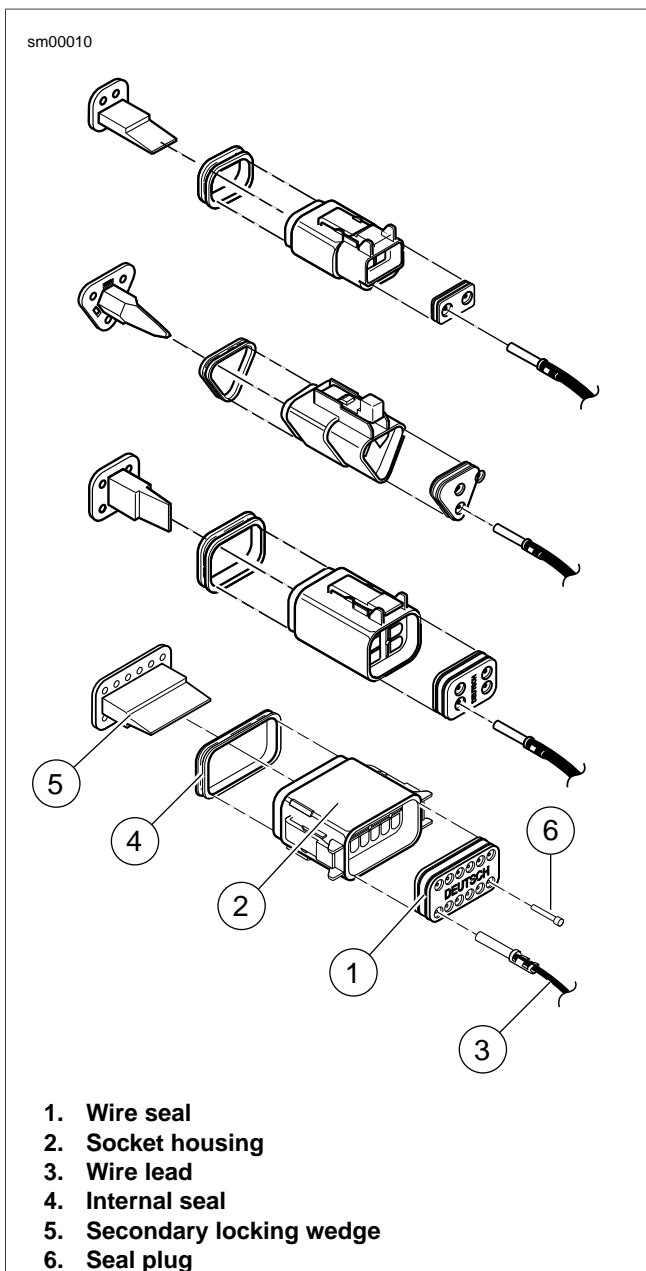

Figure A-16. Deutsch Connector: 2, 3, 4 and 12-Place Socket Housings
- See Figure A-16. Fit rear wire seal (1) into back of socket housing (2), if removed.
- Grasp wire lead (3) approximately 1.0 in. (25.4 mm) behind the socket terminal. Gently push socket through hole in wire seal into its chambers until it "clicks" in place.